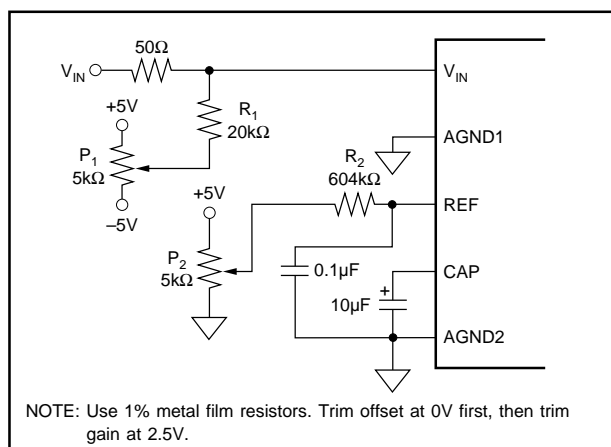
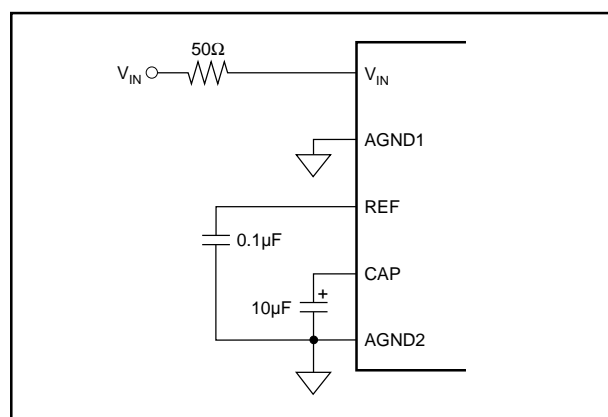
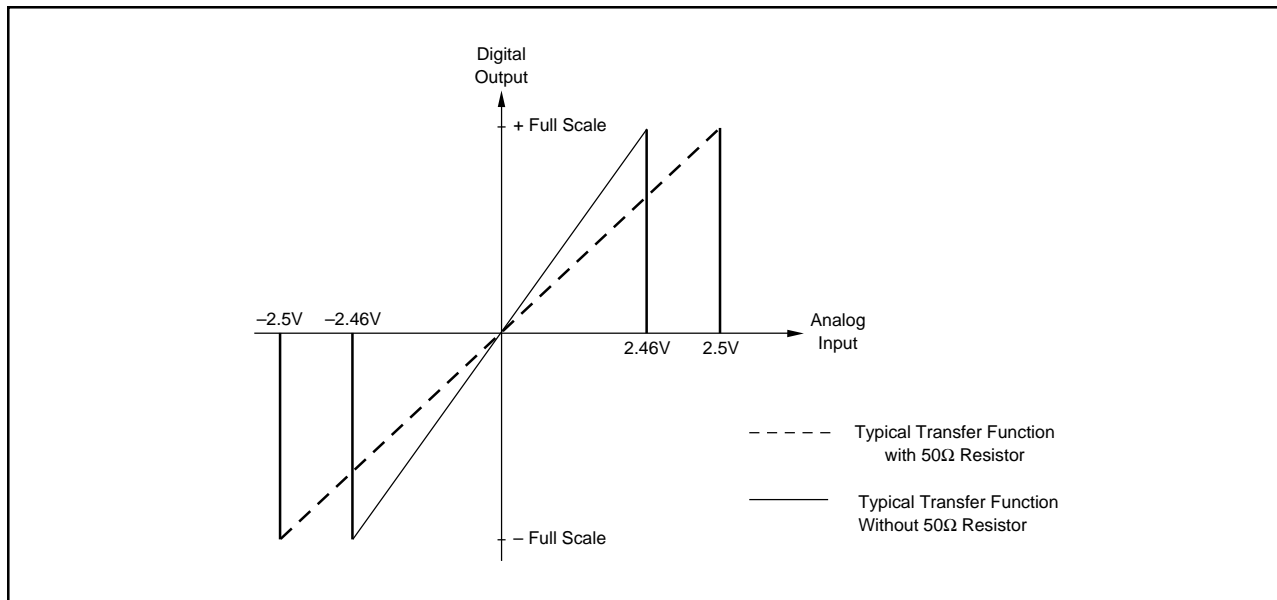

FIGURE 4a. Circuit Diagram With External Hardware Trim.
FIGURE 4b. Circuit Diagram Without External Hardware Trim.
FIGURE 5. Circuit Diagram With and Without External Resistors.
T = +25°C,  $f_S = 800\text{kHz}$ ,  $+V_{\text{DIG}} = +V_{\text{ANA}} = +5\text{V}$ ,  $-V_{\text{ANA}} = -5\text{V}$ , using internal reference and the input  $50\Omega$  resistors as shown in Figure 4b, unless otherwise specified.
$T = +25^{\circ}\text{C}$ ,  $f_s = 800\text{kHz}$ ,  $+V_{\text{DIG}} = +V_{\text{ANA}} = +5\text{V}$ ,  $-V_{\text{ANA}} = -5\text{V}$ , using internal reference and the  $50\Omega$  input resistors as shown in Figure 4b, unless otherwise specified.
The ADS7819 has a  $\pm 2.5V$  input range. Figures 4a and 4b show the necessary circuit connections for the ADS7819 with and without external hardware trim. Offset and full scale error(1) specifications are tested and guaranteed with the 50 $\Omega$  resistor shown in Figure 4b. This external resistor makes it possible to trim the offset  $\pm 12mV$  using a trim pot or trim DAC. This resistor may be left out if the offset and gain errors will be corrected in software or if they are negligible in regards to the particular application. See the **Calibration** section of the data sheet for details.
To calibrate the offset and gain of the ADS7819, install the proper resistors and potentiometers as shown in Figure 4a. The calibration range is  $\pm 12\text{mV}$  for bipolar zero and  $\pm 30\text{mV}$  for full scale.
See Figure 4b for circuit connections. Note that the actual voltage dropped across the  $50\Omega$  resistor is nearly two orders of magnitude lower than the voltage dropped across the internal resistor divider network. This should be taken into consideration when choosing the accuracy and drift specifications of the external resistors. In most applications, 1% metal-film resistors will be sufficient.
The external  $50\Omega$  resistor shown in Figure 4b may not be necessary in some applications. This resistor provides trim capability for the offset and compensates for a slight gain adjustment internal to the ADS7819. Not using the  $50\Omega$  resistor will cause a small gain error but will have no effect on the inherent offset error. Figure 5 shows typical transfer function characteristics with and without the  $50\Omega$  resistor in the circuit.